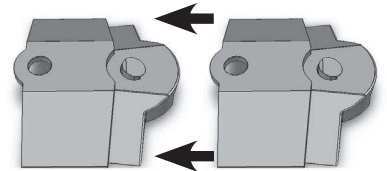

Figure 1: Slide parts together until they snap in place. Pull to ensure they are locked properly.
- Assemble main body segments by sliding the male end into the female end until parts snap together as shown in Figure 1